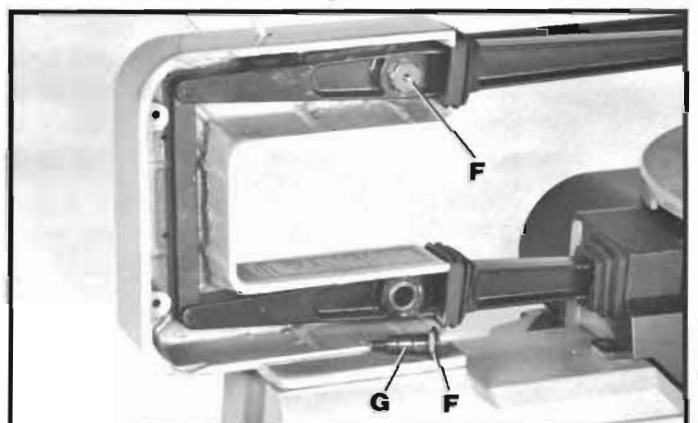

Fig. 33
6. Thoroughly clean grease from shafts (G) Fig. 33, of both pivot bolts (F) and lubricate shafts (G) with a few drops of light machine oil.
7. Reassemble two pivot bolts (F) Fig. 33, to machine.